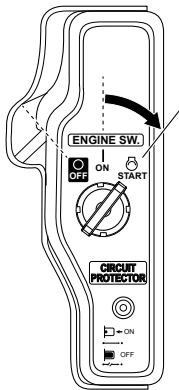

Figure 23. Engine ON/OFF Switch (START)
6. Turn the **Engine ON/OFF switch** on the engine to the **START** position (Figure 23). Release the key when engine starts and key will return to the **ON** position.